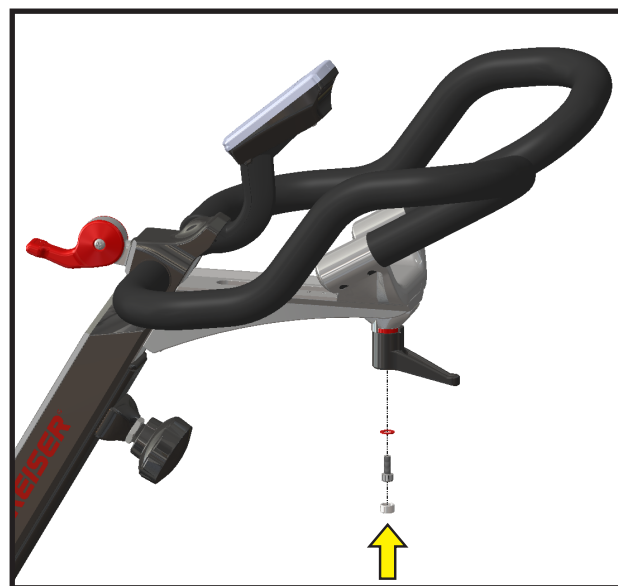

Figure 18. Install L-Handle and Secure with Screw and Washer
- Place the L-handle onto the handle stud. The L-handle should point away from the cycle when the handlebar is tight. Install the screw and washer to secure the assembly, refer to Figure 18.